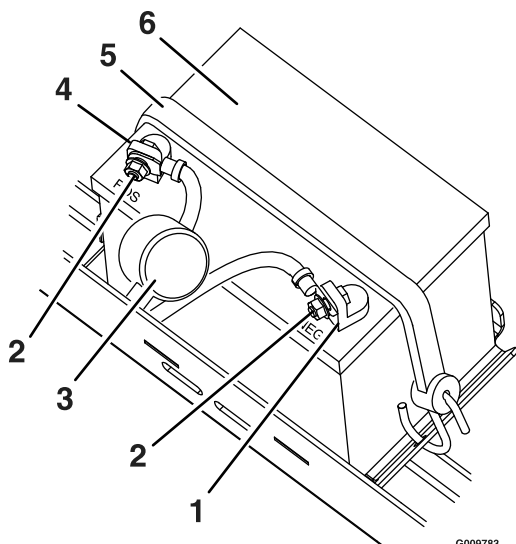

Figure 27
4. Disconnect the negative (black) ground cable from the battery post (Figure 27). Retain all fasteners.
6. Remove the battery strap (Figure 27) and lift the battery from the battery tray.
1. Position the battery in the tray with the terminal posts toward the operating position (Figure 27).
5. Secure the battery with the strap (Figure 27).